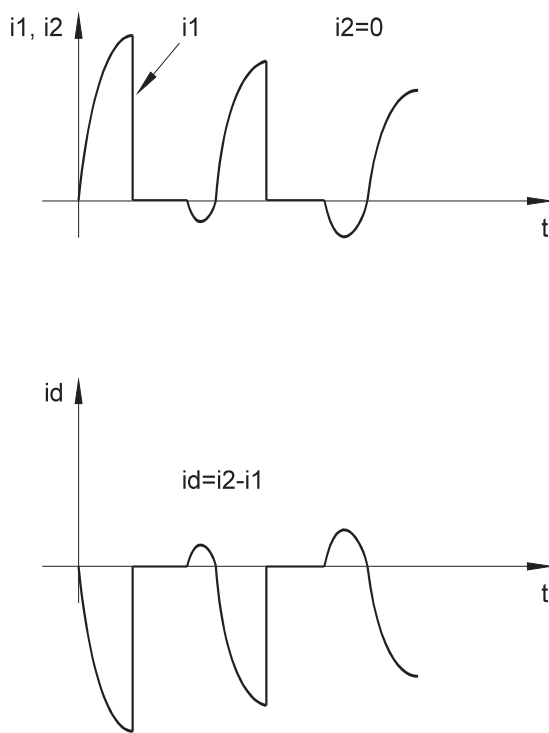
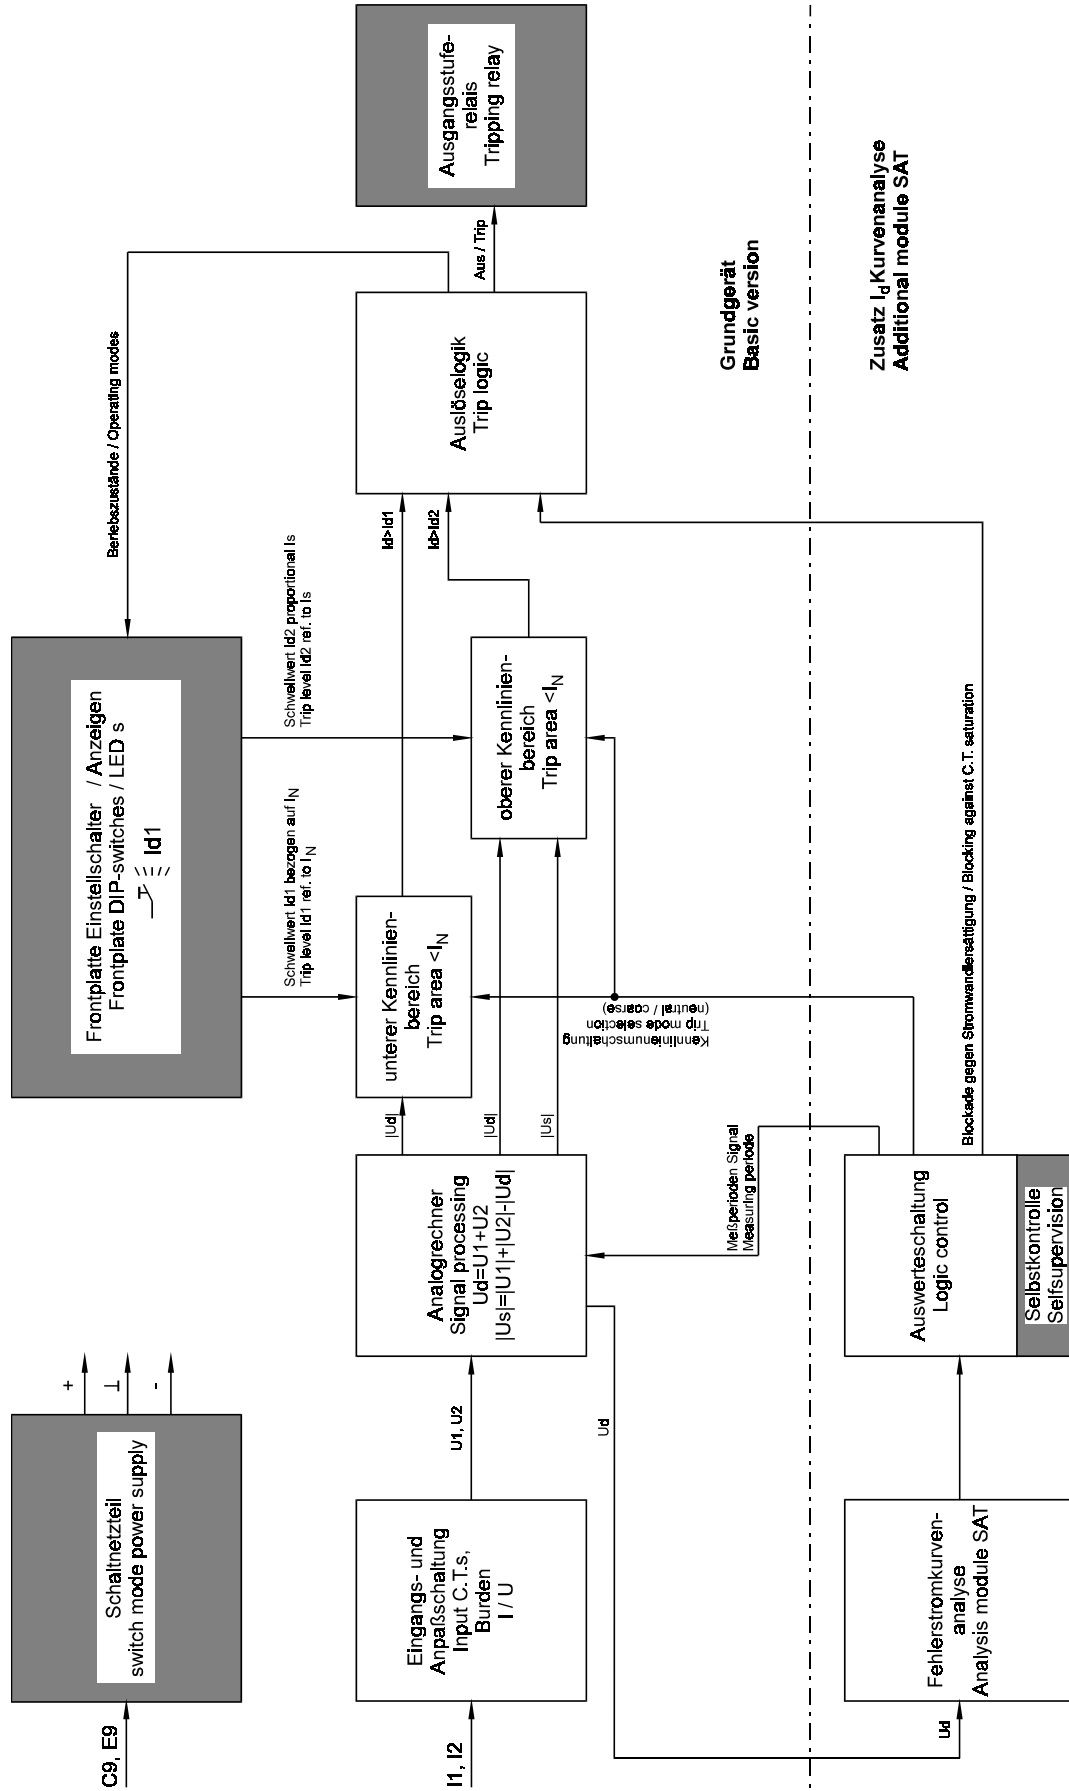

Fig. 5.3a: Current comparison saturated C.T.s (internal fault)
Fig. 5.3: Block diagram IRD1-G
Figure 5.3 shows the differential measurement on the example of extremely dissimilar saturation of C.T.s in a differential scheme. Fig. 5.3a shows the secondary current due to C.T. saturation during an transformer fault (internal fault). The differential current i_d represents the fault current. The differential relay must trip instantaneously.
- Fig. 5.3 Current comparison with C.T.s saturated by DC offset in fault current wave form
- 5.3b External fault: i_1 as in fig. 5.3a for an internal fault